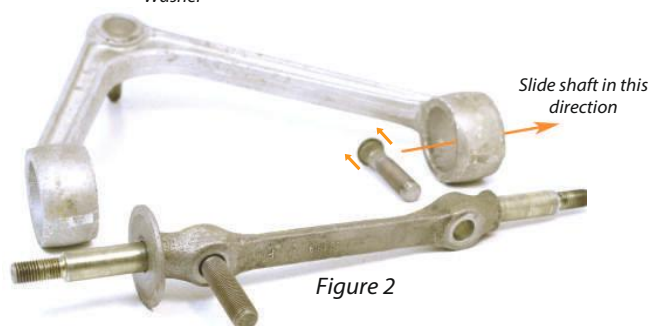

Figure 2
3. Remove the stud on the pivot shaft, furthest away from the inner washer. This allows the shaft to slide down to one side of the arm and separate it from the arm, as shown in Figure 2.